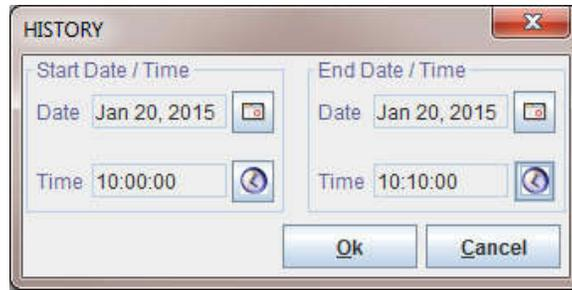

Figure 84: History Date/Time Selector window
3. Fill in Date/Time information in History Date/Time Selector window (Figure 84) and click Ok button